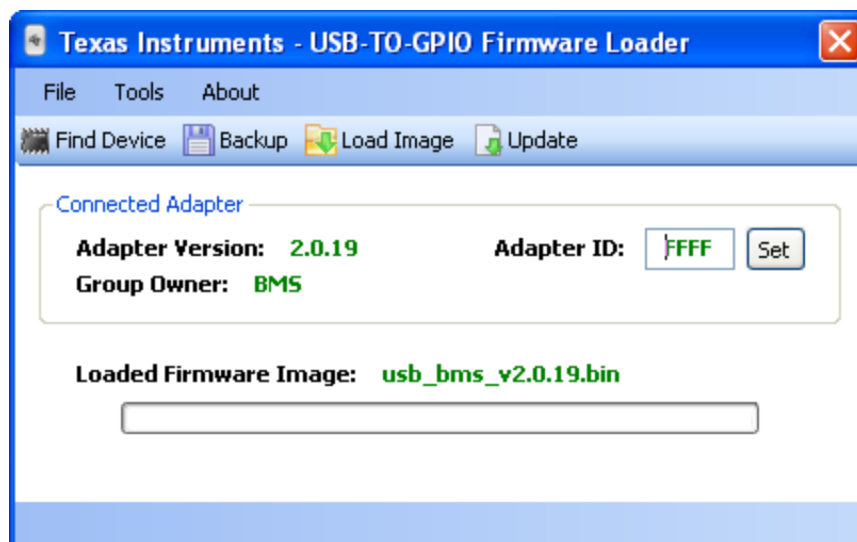

Figure 2. Successfully Updated TI USB Interface Adapter
10. After successful update, the window should appear as Figure 2.